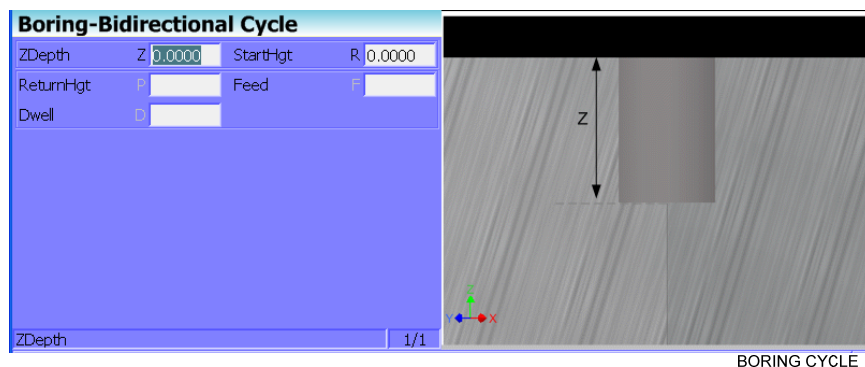

Figure 4-4, Boring Cycle Graphic Menu
2. Highlight **Boring** and press **ENTER** to display the Boring-Bidirectional Cycle Graphic Menu. Refer to **Figure 4-4**.